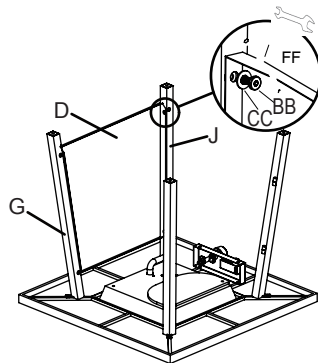

Figure 3
- Insert panel (C/D/F) to back-left leg (G) and front-left leg (J) with bolts (AA) and washer (CC) using hex screw driver (DD), (see Figure 3).